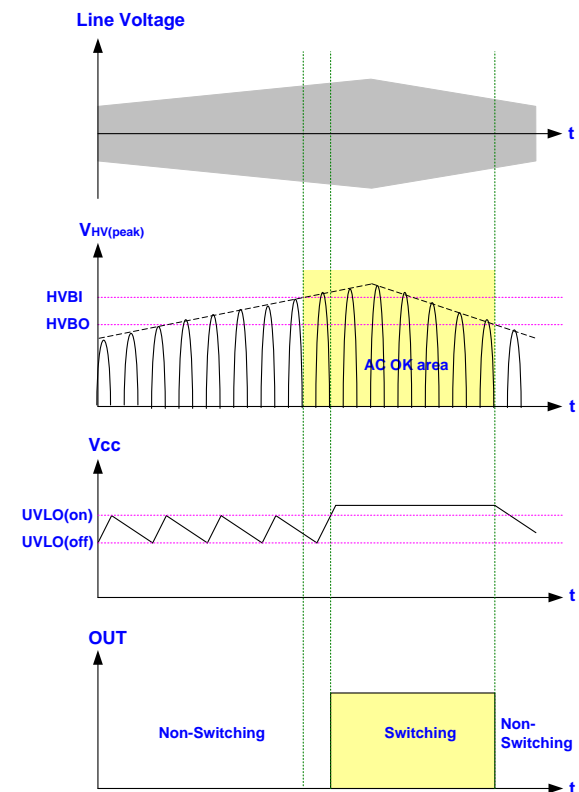

Fig. 10
The LD5762L features burn-in/out function on HV pin. As the built-in comparator detects the half wave rectify line voltage condition, it will shut off the controller to prevent from any damage. Fig. 10 shows the operation. When $V_{HV} < HVBO$, the gate output will remain off even when the VCC already reaches UVLO(ON). It therefore forces the VCC hiccup between UVLO(ON) and UVLO(OFF). Unless the line voltage rises over HVBI V_{AC} , the gate output will not start switching even as the next UVLO(ON) is tripped. A hysteresis is implemented to prevent the false-triggering during turn-on and turn-off.